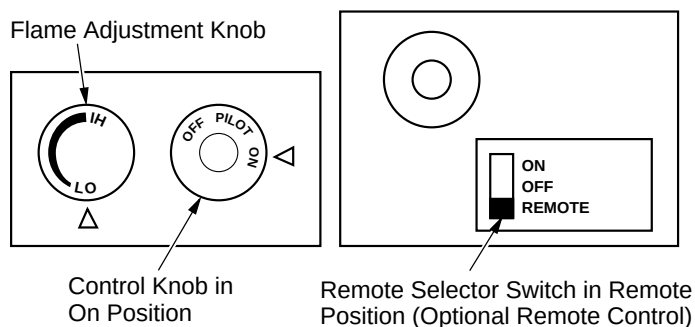

Figure 34 - Setting the Remote Selector Switch, Control Knob, and Flame Adjustment Knob for Remote Operation
1. After lighting, let pilot flame burn for about one minute. Turn control knob to ON position. Adjust flame adjustment knob anywhere between HI and LO. Slide the remote selector switch to the REMOTE position (see Figure 34). **Note:** The burners may light if hand-held remote ON button was on when remote selector switch was last turned off. You can now turn the burners on and off with the hand-held remote control unit.